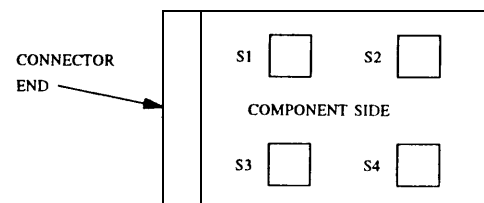

Figure 28-6. SN221B Switch Locations
Figure 28-6 shows four, two-rocker switch packages, S1-S4 positioned on the circuit pack. Each switch package serves two of the eight port circuits provided on the pack.
Refer to table 28-9 to select the required option for a port circuit. First, identify the switch package (S1-S4) associated with the port circuit (locate the package as shown in figure 28-6). Next, set the single switch section for that port as shown in table 28-9; (U) indicates the switch section is fully depressed at the upper end and (D) indicates the switch section is fully depressed at the lower end.